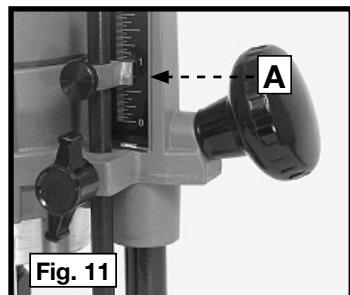

Fig. 11
4. Position the depth indicator (A) Fig. 11 at the "0" position and tighten the knob.